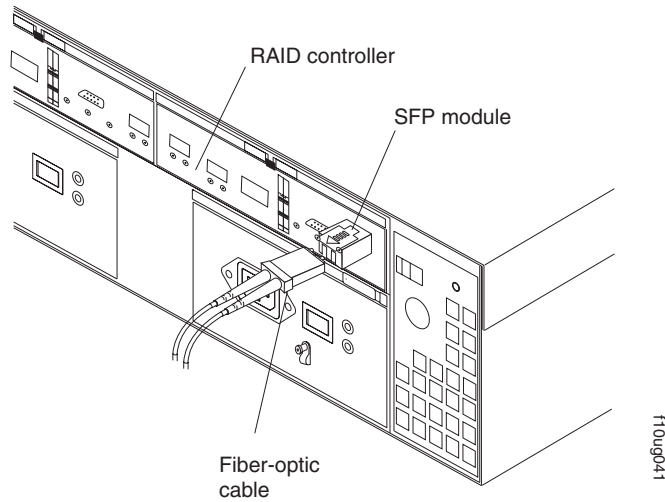

Figure 34. Installing an SFP module into the host port
4. Insert the SFP module into the host port until it clicks into place. See Figure 34 on page 50.